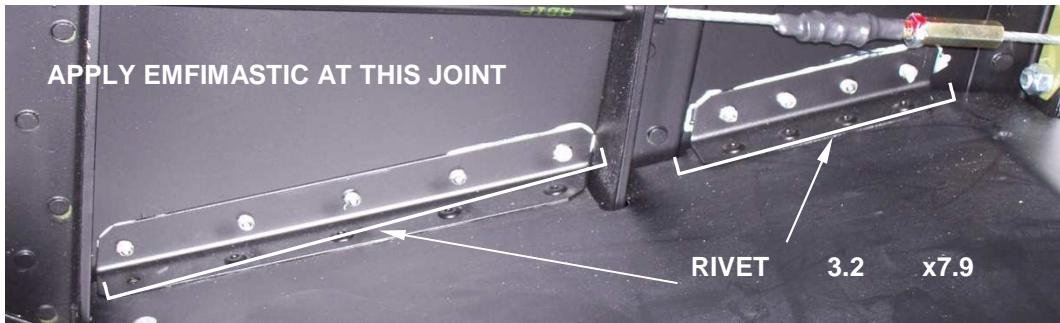
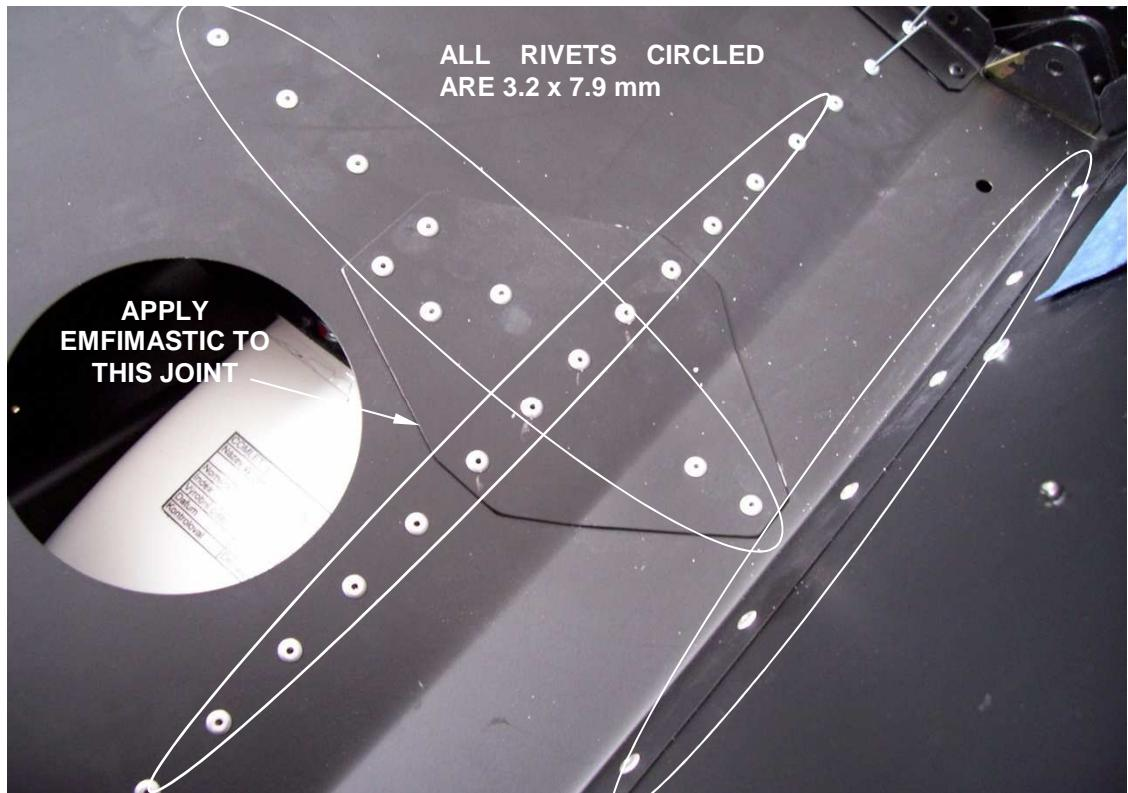

Figure 4a
Figure 5
A. Fit the seat pan and replace the rivets. emfimastic should be applied only to the joint with the fuselage side (figure 4a) and between the doubler panel and the seat pan. Most rivets are 3.2 X 7.9mm. The exceptions are: six rivets (three each side) which fit through the spar cap and secure the control stick mounting brackets which are 3.2 X 11.1mm; another four (two each side) of the 3.2 X 11.1mm which fit at the inboard end of the row of rivets along the base of the pan and at the front inner end. Rivet the stick backstops in place using rivet 4 X 12.7mm Figure 5 and 6. See below for rivet part numbers